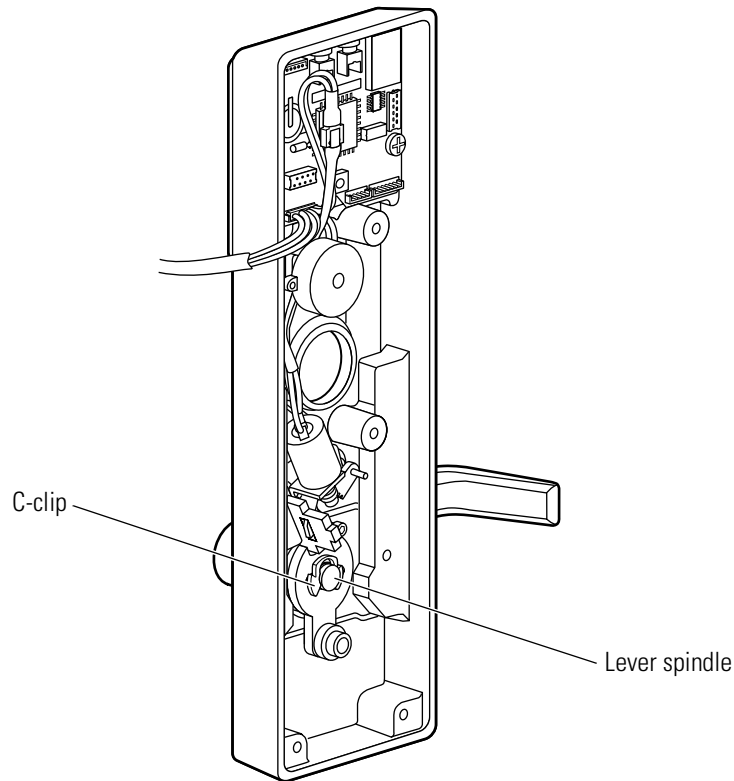

Figure 10.13 Removing and reinstalling the c-clip
2. Remove the c-clip from the lever spindle. See Figure 10.13.
2. Reinstall the c-clip onto the lever spindle. The orientation of the clip does not matter. See Figure 10.13.